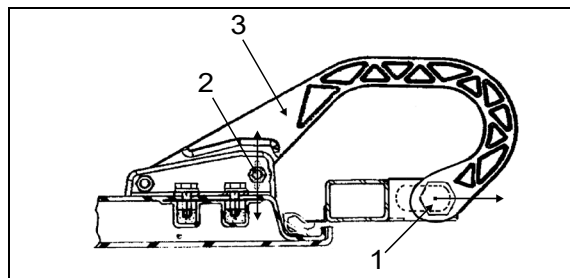

FIGURE 94: DOOR HINGE
7. Loosen screws (5, Figure 94) to allow the door to be shifted "UP or DOWN".